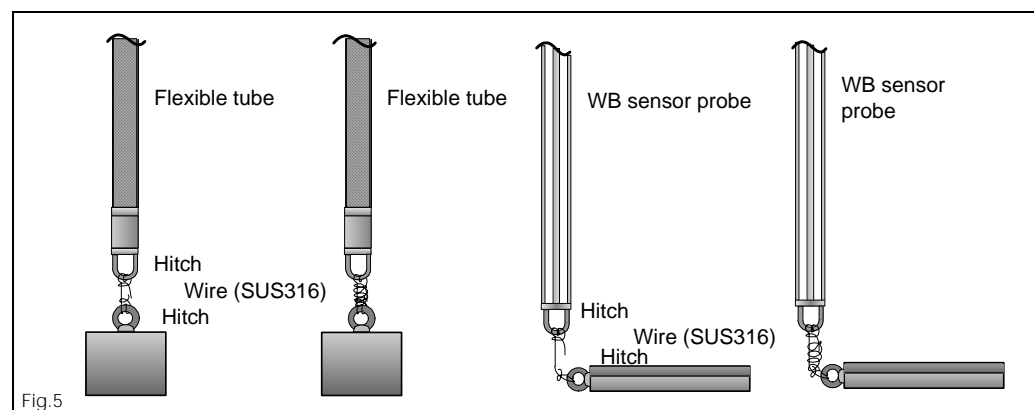

Fig.5
4. Wind the tensioning wire twice around the hitches and wrap a wire around it (see Fig.5)
4. Tighten the tensioning wire between the lower end of the flexible tube or WB sensor and the anchor weight. Wind the tensioning wire twice around each of the hitches and wrap a wire around it (see fig.5 ).